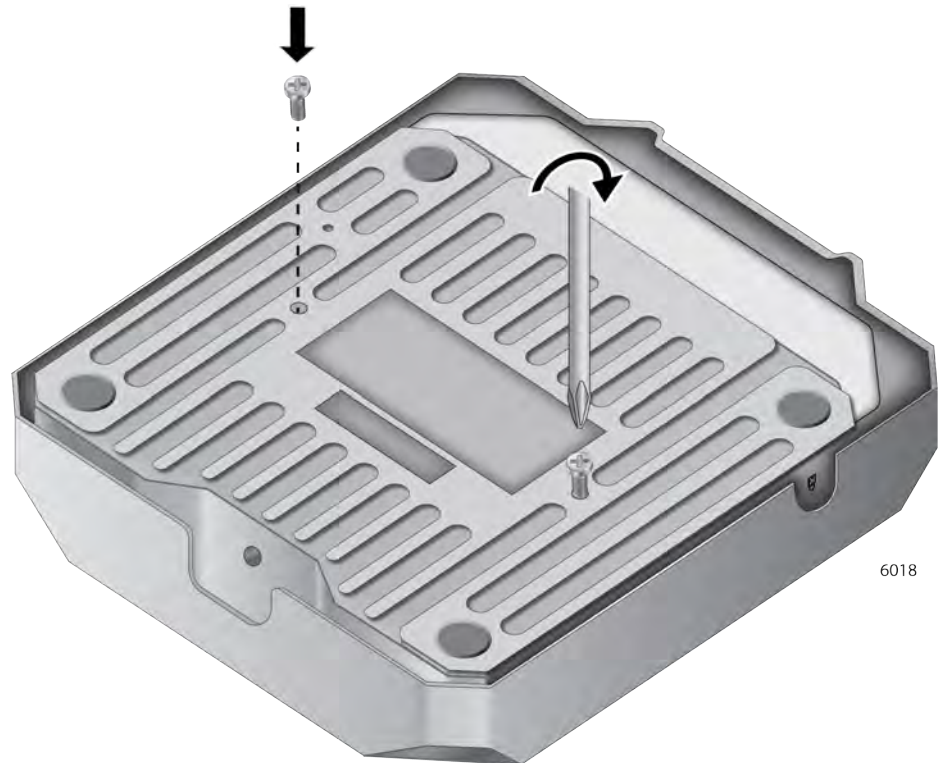

Figure 13. Attaching the Bracket Screws to the Wireless Access Point
1. Install the two screws (provided) in the bottom side of the access point chassis. Leave the screws loose enough so that you can slide the bracket under the screw heads. Refer to Figure 13.